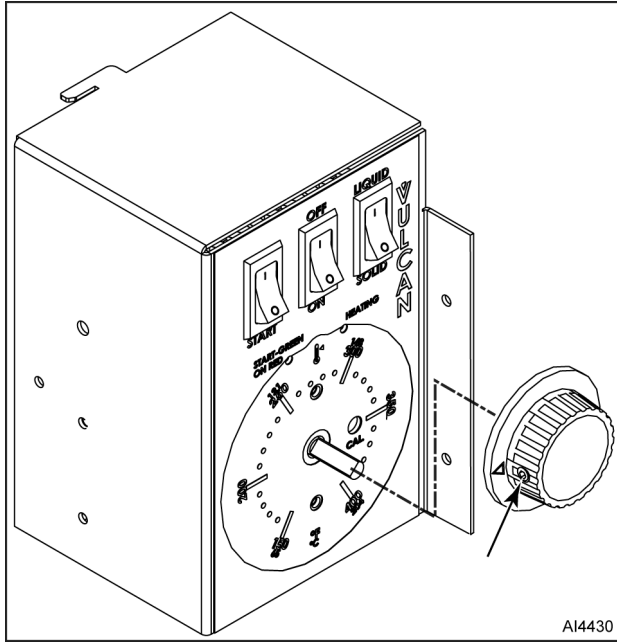

Fig. 7
2. Remove control knob (Fig. 7).